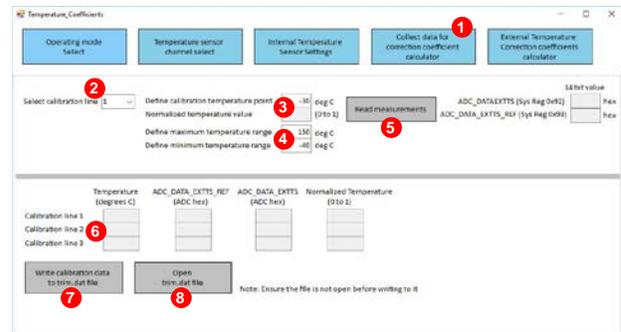

Figure 25. Collect Data for External Temperature Correction Coefficient Calculator
1. Click **Collect data for correction coefficient calculator** (Label 1 in Figure 25).
2. Click **select calibration line** (Label 2 in Figure 25) to define a calibration point.
3. Enter the current temperature applied to the RTD in the **Define calibration temperature point** box (Label 3 in Figure 25).
4. Enter the maximum and minimum temperature ranges in the **Define maximum temperature range** box and the **Define minimum temperature range** box (Label 4 in Figure 25).
5. Click **Read measurements** (Label 5 in Figure 25) for the measurements read to display on screen for the selected calibration line.
6. Collect three calibration points spread across the temperature range. Fill in the calibration lines (Label 6 in Figure 25) and then click **Write calibration data to trim.dat file** (Label 7 in Figure 25).
Users can optionally click **Open trim.dat file** (Label 8 in Figure 25) to view the calibration file for the calculator.